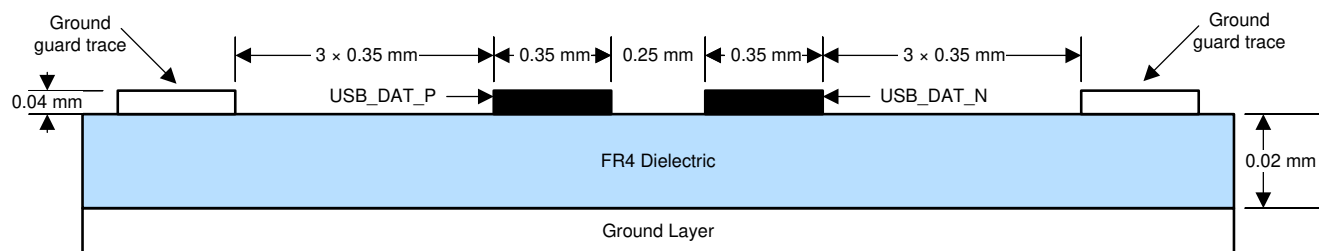

Figure 10-13. USB Layout Example
- (1) If using the minimum trace width and spacing to escape the Controller ball field, widening these out after escape would be desirable if practical to achieve the target 100 Ω impedance (e.g. to reduce transmission line losses).
- (2) One pcb layout example for the differential pair is shown in Figure 10-13